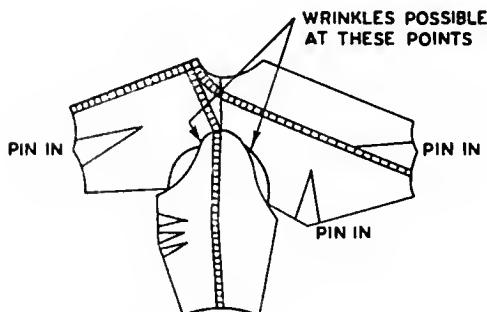

Fig. 33. Pattern measurements.
- A. Pin in the darts at the front and the back shoulder. Pin all other darts, tucks, and pleats (Fig. 33).
pieces together at the shoulder seam on the stitching line (Fig. 33).
- C. Match the stitching line on the top of the sleeve to the stitching line at the top of the armhole at the marking. Pin the sleeve at the under-arm seam as indicated. The pattern will lie in folds at the top of the sleeve (Fig. 33).